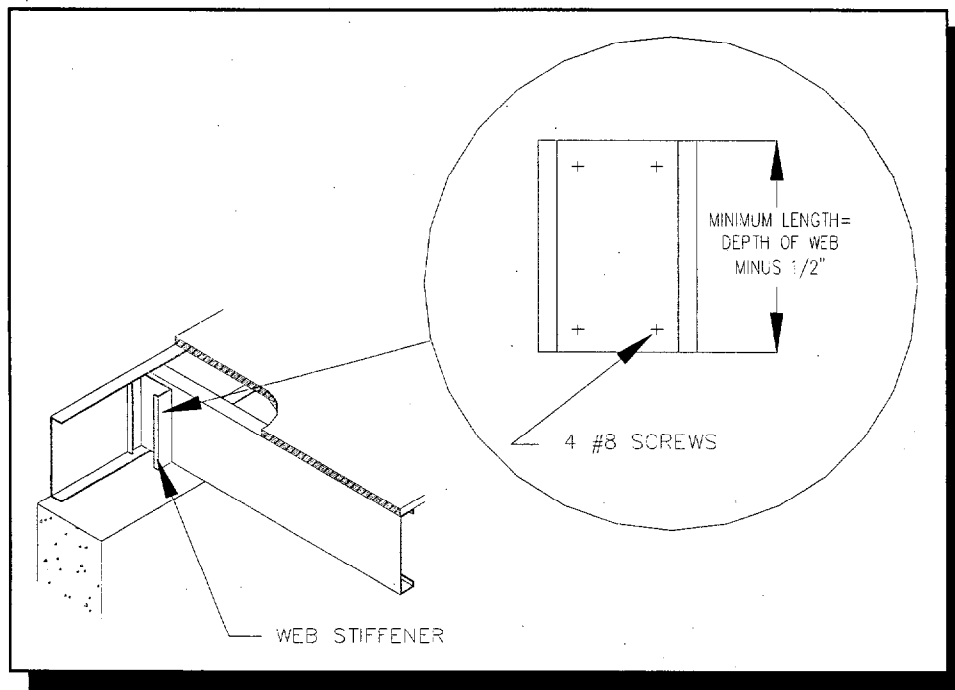

Figure 3.8. Web Stiffener Detail
- Each stiffener is fastened to the web of the member it is stiffening with minimum #8 screws equally spaced as shown in Figures 3.8 and 3.9 (The TradeReady® rim joist includes a “built-in” web stiffener which simplifies installation).